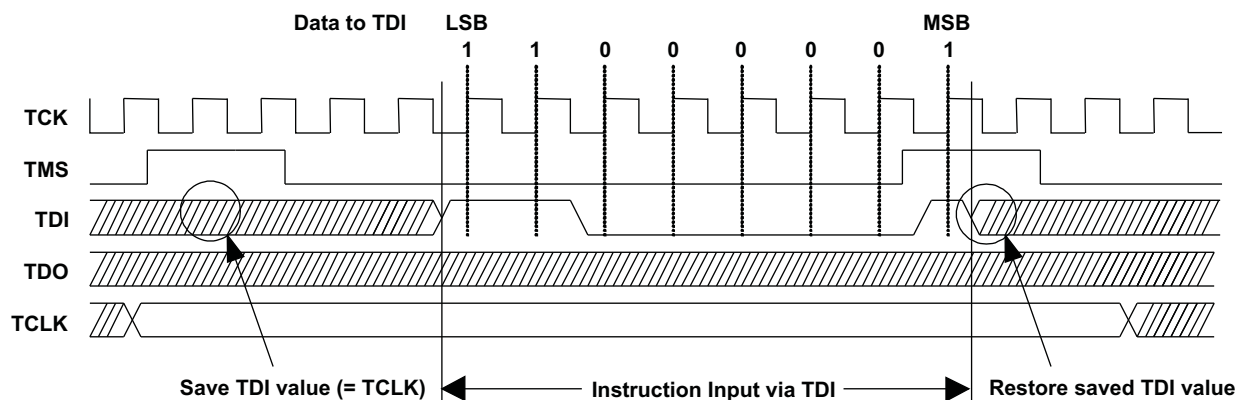

Figure 8-2. Timing Example for IR_SHIFT (0x83) Instruction
This macro loads a desired JTAG instruction into the JTAG instruction register (IR) of the target device. In the MSP430, this register is eight bits wide with the least significant bit (LSB) shifted in first. The data output from TDO during a write to the JTAG instruction register contains the version identifier of the JTAG interface (or JTAG ID) implemented on the target device. Regardless of the 8-bit instruction sent out on TDI, the return value on TDO is always the JTAG ID. Each instruction bit is captured from TDI by the target MSP430 on the rising edge of TCK. TCLK should not change state while this macro is executed (TCLK = TDI while the TAP controller is in the Run-Test/Idle state). Figure 8-2 shows how to load the ADDR_16BIT instruction into the JTAG IR register. See Section 8.2.4 for a complete list of the JTAG interface communication instructions used to access the target device flash memory module.